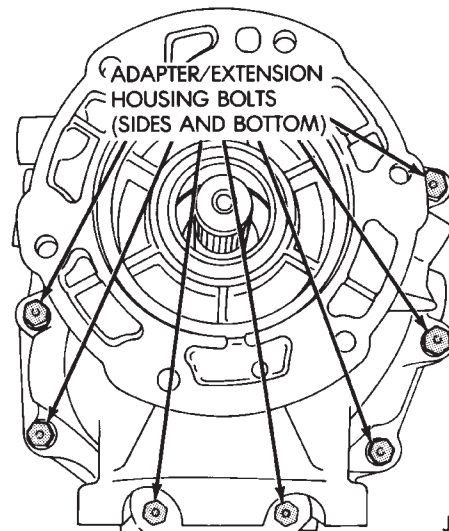

Fig. 27 Adapter/Extension Housing Bolts
- (14) Remove the shift arm from the adapter housing.
- (15) Remove adapter/extension housing bolts (Fig. 27).